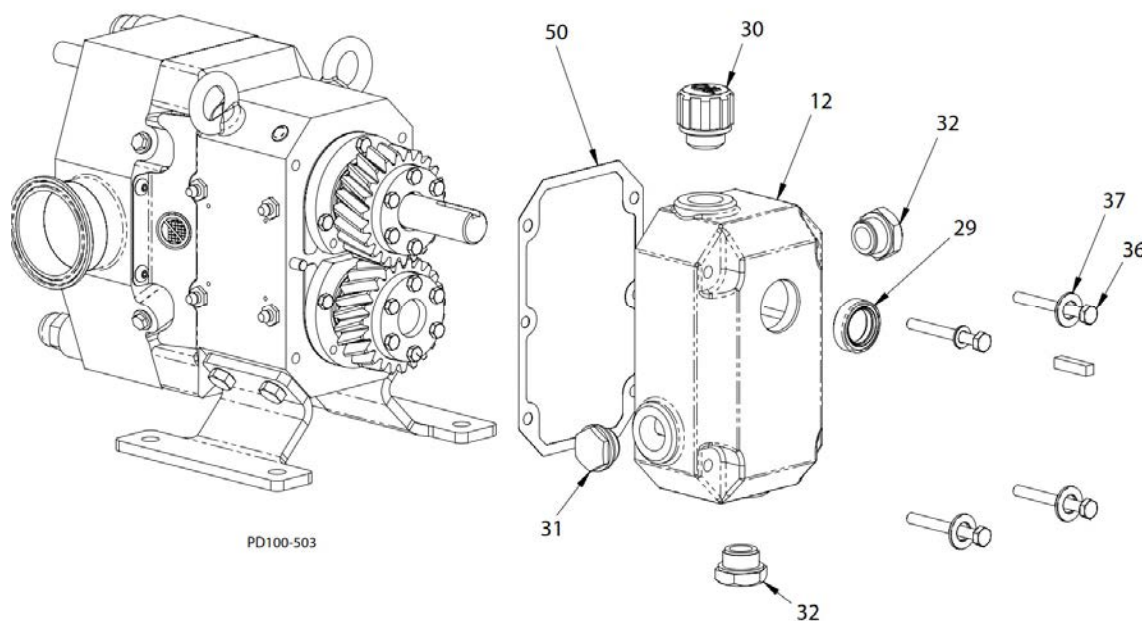

Fig. 65: Gear Cover Installation
1. Press the input shaft seal (Figure 65, item 29) into the bore of the gear cover (item 12).
2. Place the gasket (item 50) over the dowel pins in the gear case.
4. Install the cap screws (item 36) and washers (item 37) and tighten them evenly.
5. Install the oil plugs (item 32) and level indicator plug (item 31) into the appropriate locations for the pump mounting position.
6. Fill with oil and install the breather plug (item 30). Table 13 provides oil capacity by pump size and mounting position. The oil level should reach the center of the level indicator.